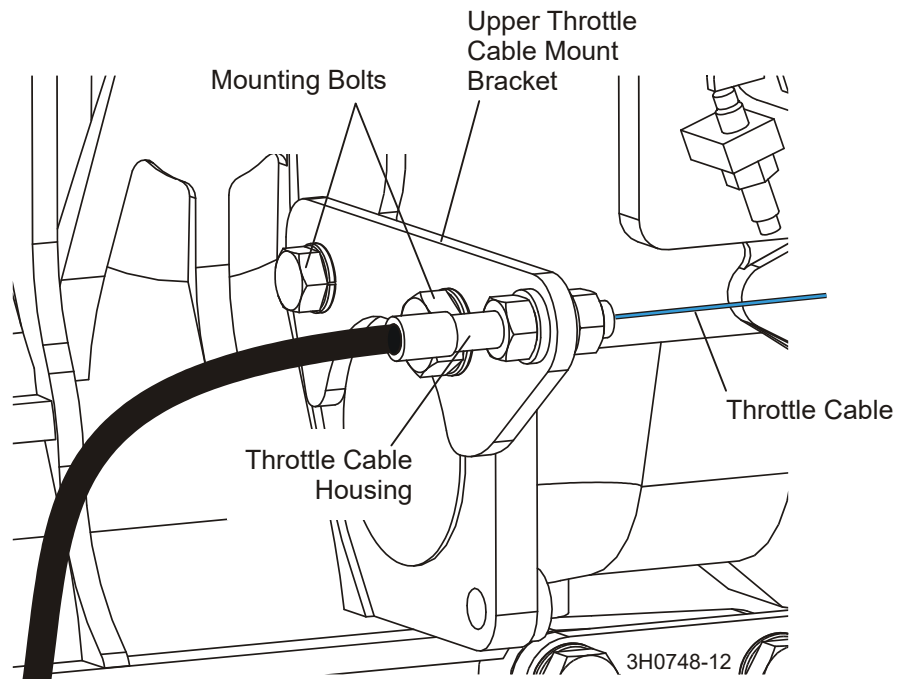

FIG. 2-7
See Figure 2-7.
1. Remove retaining ring (Fig.2-7 pos.3) and the cover plate (Fig.2-7 pos.2).
2. Pull out the linings and flyweights (Fig.2-7 pos.1).